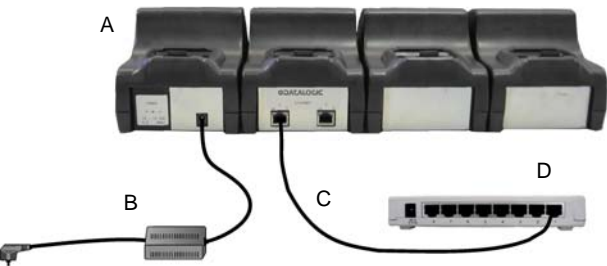

Figure 4 - Ethernet Connection
1. Connect the first Ethernet cradle to power and to the Ethernet Switch as shown on Figure 4.
4. Connect additional cradles as shown in Figure 4.